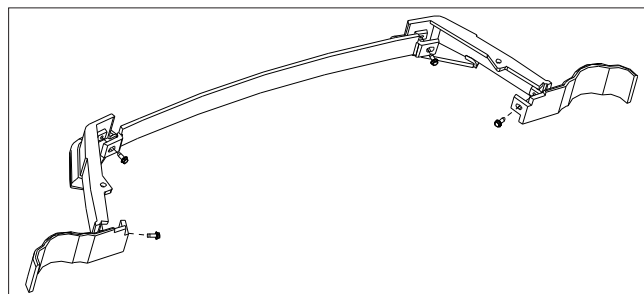

Figure 9: Assembling Cast Skirt.
1. Using a  $\frac{3}{8}$ " socket or wrench connect the five (5) pieces of the skirt together with four (4) screws provided (see Figure 9). Do not completely tighten the screws; the screws should be loose enough that the cast pieces will be able to be adjusted but not fall apart.